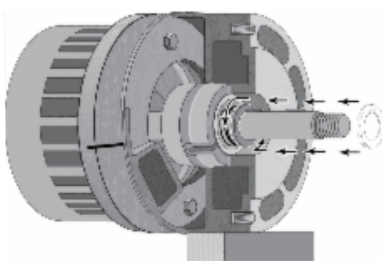

Figure 23
6. Push the shaft seal and seal spring onto the shaft, after making sure that the seal faces and shaft are clean. Take care that the shaft does not damage the carbon seal face. Follow the seal spring with the spring holder; compress the spring and give the spring holder a quarter turn to lock it under the first shaft key (see Figure 23).